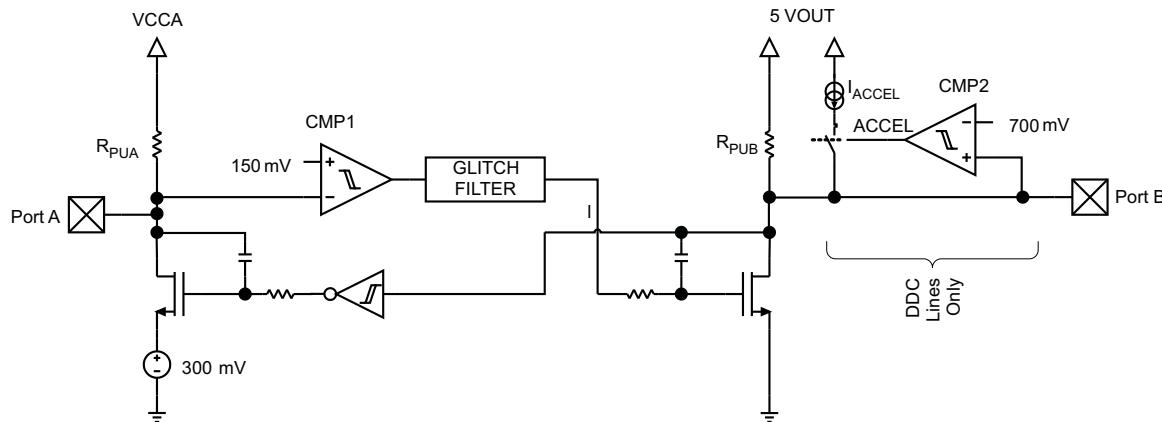

Figure 13. DDC/CEC Level Shifter Block Diagram
- The threshold of CMP1 (see Figure 13) is approximately $150 \text{ mV} \pm 40 \text{ mV}$ of total hysteresis.